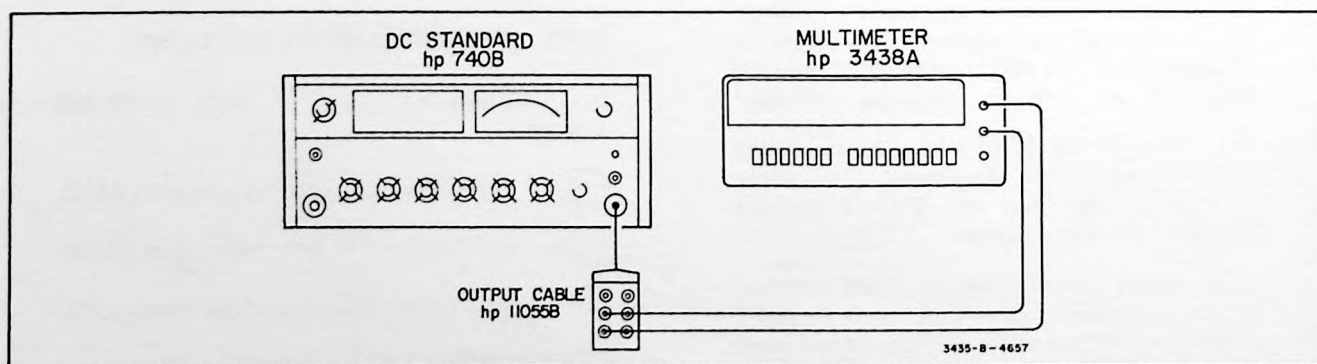

Figure 5-1. DC Gain Adjustment.
- c. Connect the 740B output to the Multimeter input as shown in Figure 5-1.